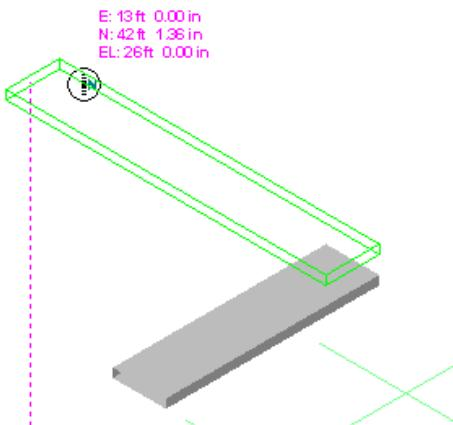

*Figure 19: First Cableway Section in East Direction*
15. Position the cursor in the east **E** direction and click to define the end point to place **8 ft** cableway, as shown in Figure 19.